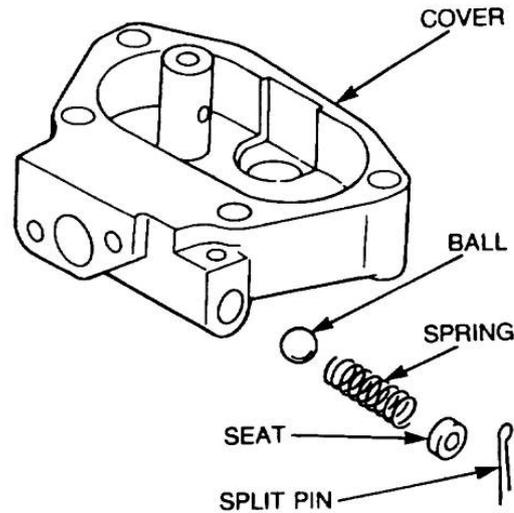

Figure 39 Removal of the Oil Relief Valve Ball
- e. Remove the split pin, relief valve ball, seat and spring from the bore in the oil pump cover (Figure 39). Discard the split pin.